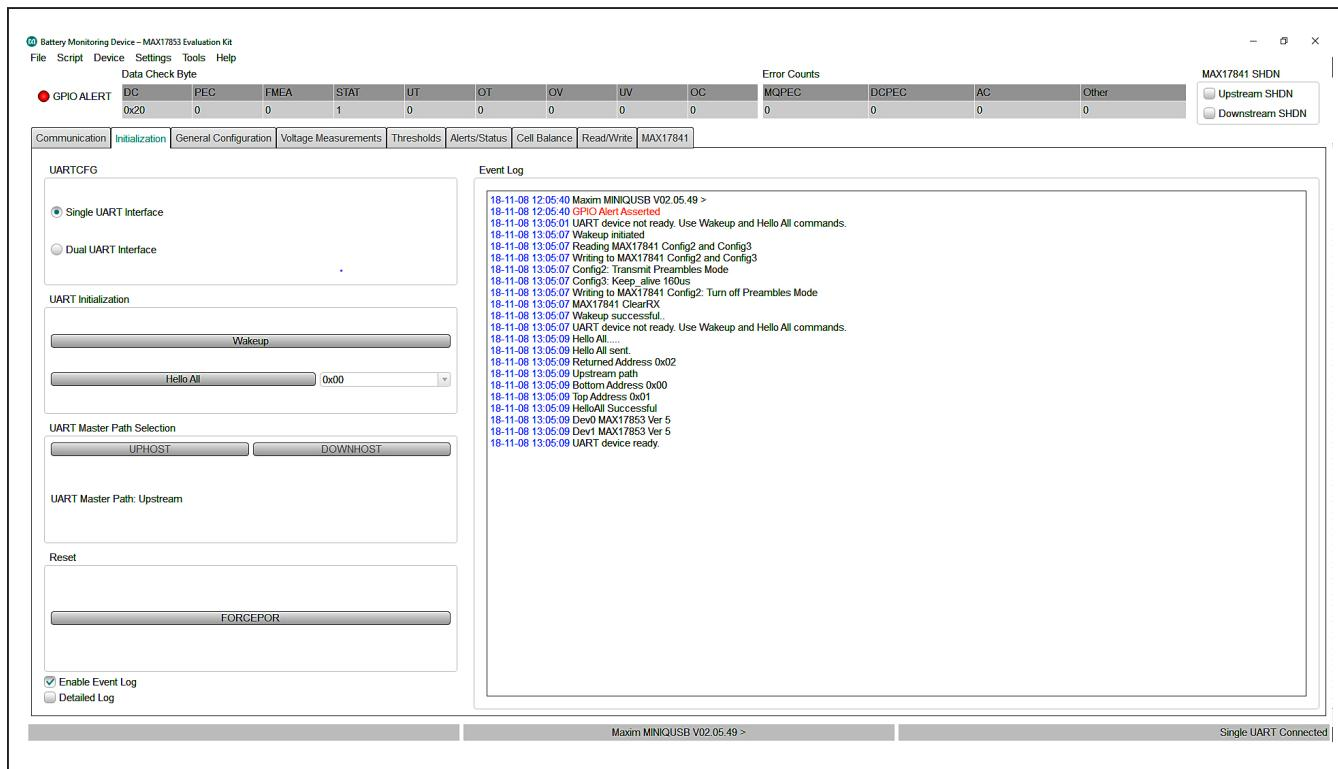

Figure 13. Initialization Tab
- 14) Select the **Initialization** tab (Figure 13).
The **Initialization** tab (see Figure 13) is used to initialize the system and assign addresses to each device in the daisy-chain. The correct **Single UART Interface** or **Dual UART Interface** radio button must be selected for the hardwired system. Communication is only established when the wired system aligns with the interface chosen from the **UARTCFG** group box. With the **Dual UART Interface** radio button selected, the user has the option of selecting **UPHOST** or **DOWHOST**. Further information on UPHOST and DOWHOST communication is available in the MAX17852 IC data sheet. The **Wakeup** button initiates the communication process and the **Hello All** button assigns the device addresses.
Before running scripts, follow the Quick Start \(Single UART\) section. **HelloAll Successful** and **UART device ready** response must be displayed in the **Event Log** on the **Initialization** tab (Figure 13). Set the PCB resistor ladder DIP switches (SW1, SW2) to the ON position (closed). Verify P+B14 and B0P- jumpers are installed. Select the **Voltage Measurements** tab (Figure 15) and click on the **Scan Settings** button in the **Settings** group box to open the **Scan Settings** panel (Figure 16). Select **Cell Enable All** and click **Confirm Settings** at the bottom of the panel. Back in the **Voltage Measurements** tab, click on the **Scan Continuously** checkbox. Figure 26 shows a sample script that programs the cell overvoltage to 1.099V and the undervoltage to 0.9V.